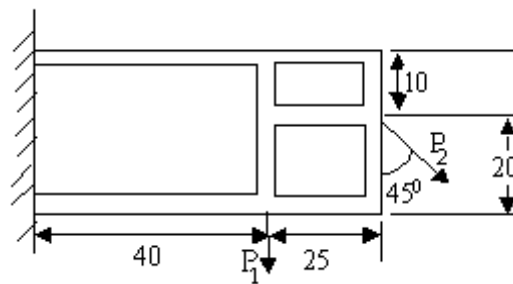

Figure 5b
- (b) Find the shear flow in each web of the beam shown in the figure 5b. Plot the distribution of axial load along each stiffening member when $P_1 = 20\text{kN}$ and $P_2 = 10\text{kN}$. All dimensions are in cm. [6+10]